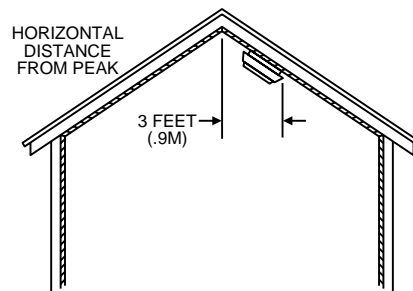

Figure 6. Sloped, peaked, or gabled ceilings
- ❑ In rooms with sloped, peaked, or gabled ceilings, install smoke alarms 3 feet (0.9 meter) measured down on the slant from the highest point of the ceiling (see figure 6).